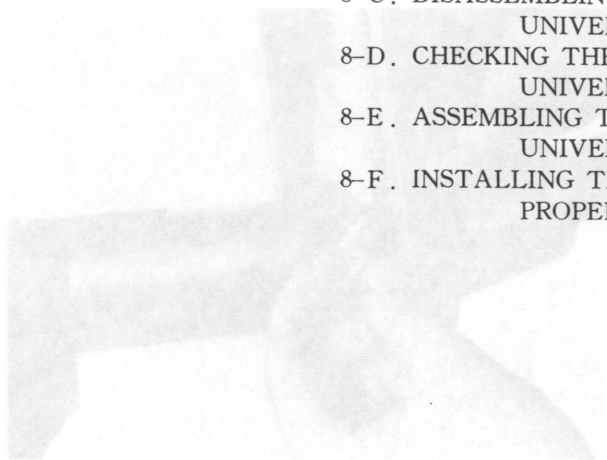

FIG. 8-4 Disassembling universal joint
5. Remove the spider and install the attachment (C) as shown in Fig. 8-4. Tighten the set screw until the bearing cup from the yoke into the attachment (D).